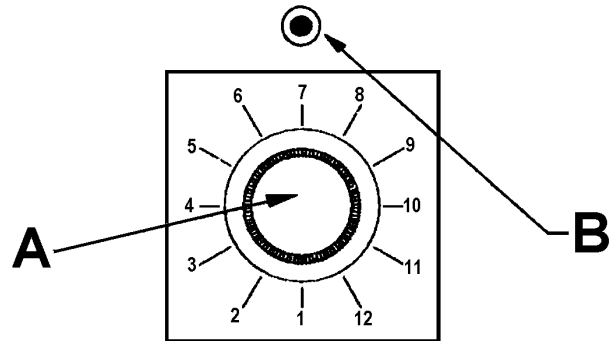

Figure 9
1. Locate LABEL SENSOR ADJUSTMENT KNOB [Figure 9-A] and red LED [Figure 9-B] on non-operator Side Cover. Turn switch fully *COUNTERCLOCKWISE* to position 1.
4. Turn LABEL SENSOR ADJUSTMENT KNOB [Figure 9-A] *CLOCKWISE* until red LED is illuminated.